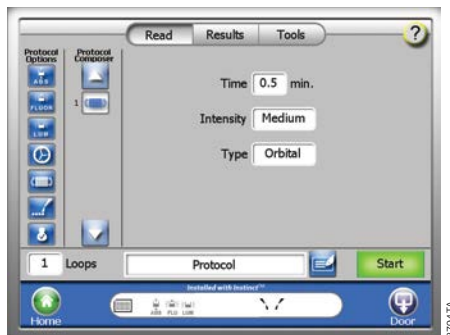

Figure 14. Selecting the Shaking parameters.
1. Select and drag the “Shaking” icon from the Protocol Options to the Protocol Composer (Figure 14).